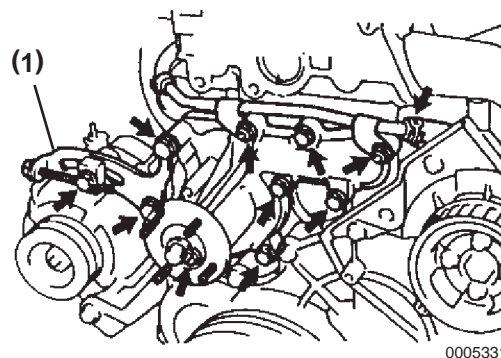

Figure 7-3
6. Remove the three bolts and alternator adjusting bar (**Figure 7-3, (1)**).
7. Remove the six bolts, two nuts, freshwater pump and gasket (**Figure 7-3**).